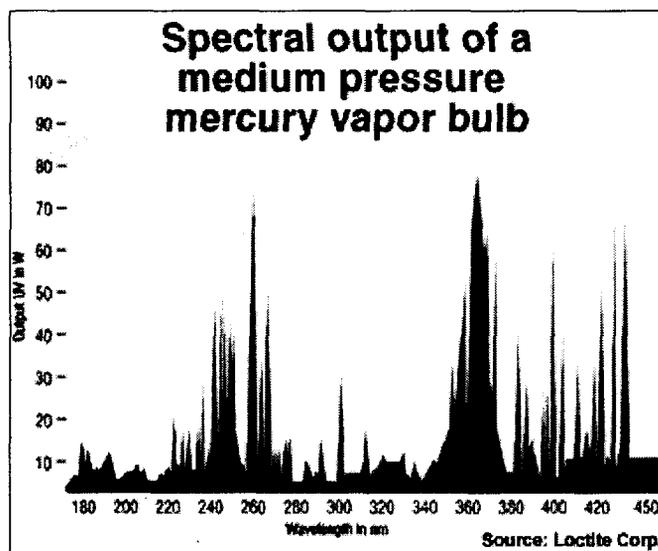

Figure 1. Spectral Output from a Medium Pressure Mercury Lamp
As a brief review, the technology uses the ultraviolet (UV) and visible spectrum emitted by vaporized mercury within a pressurized quartz envelope (see figure 1 for a spectral output graph). These lamp assemblies are known as mercury lamp systems or UV-curing systems. In the wood coating and graphic arts industry, they are medium pressure mercury long arc lamps (linear curing systems) used to irradiate a large area with UV energy. For the rework of small areas in the coating and encapsulation process, high pressure short arc lamps are used as a final step to prevent the scrap or expensive rework of material. They are also very commonly found in the electronics industry, hard disk drive industry and optoelectronic industry for the bonding, sealing or encapsulation of small components and areas.